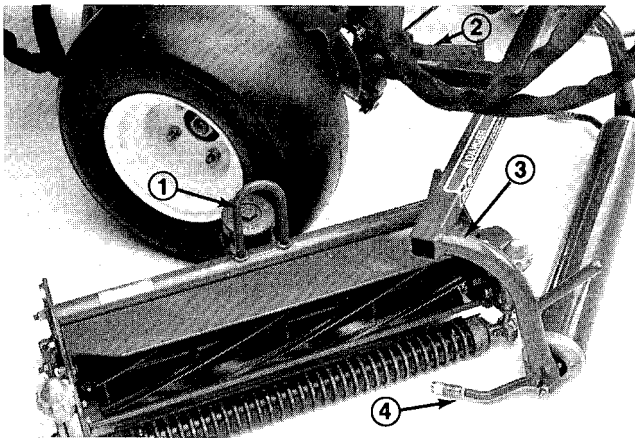

Figure 6
INSTALL CUTTING UNITS (Fig. 6–10)
2. Slide the cutting units under the pull frames and position the hoop on the top of cutting units over the lift arms (Fig. 6).